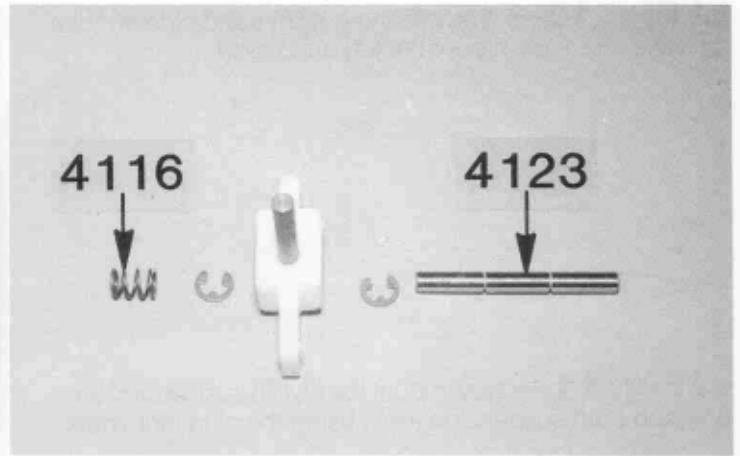
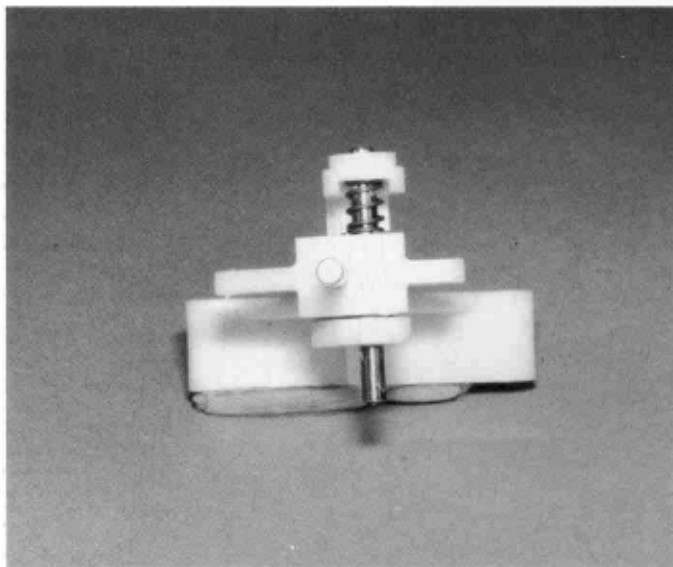

Fig. 6
Fig. 7
□ Figs. 6, 7 & 8— Now we're going to join the steering block to the #4115 front suspension arms. Place the steering block in the arm as shown in Fig. 7; place a spring on top of the arm where shown. Slide the #4123 kingpin into the suspension arm holes through the steering block and spring. Now put an "E"-clip into each of the two grooves in the kingpin. It's easier to put in the clip by the spring first, and then to put the clip on the bottom of the steering arm last. It will be a close fit but they will go on. Make sure they're securely in the grooves. Pushing them in with a small screwdriver seems to work best. Assemble both blocks.